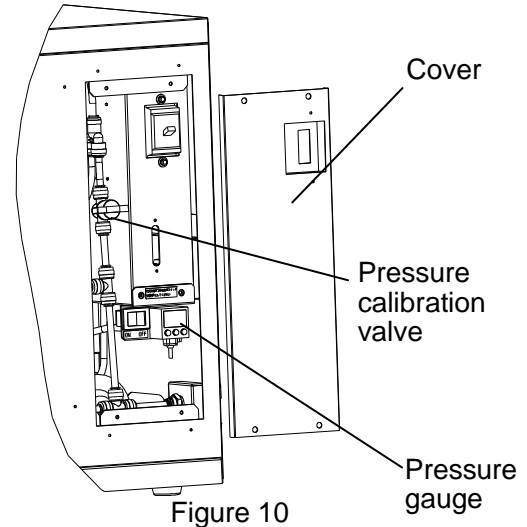
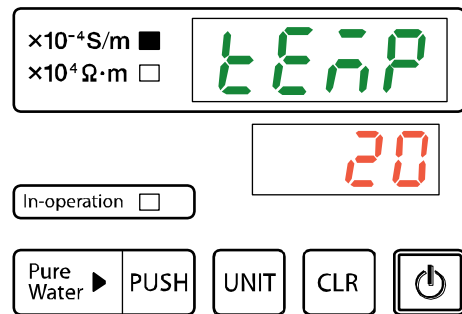

Figure 10
Figure 11
- (1) Remove the right cover of main unit and confirm the location of pressure calibration valve and pressure gauge. (See Figure 10.)
- (2) Turn ELB "ON" ( | ) and begin water sampling process. (See P.25)
- (3) Press and hold **UNIT** while drawing water sample to display the current water temperature. (See Figure 11.)
- (4) Using the temperature shown in the information display, refer to Table 1 for a corresponding pressure. Calibrate to the appropriate pressure by turning the pressure adjustment valve.